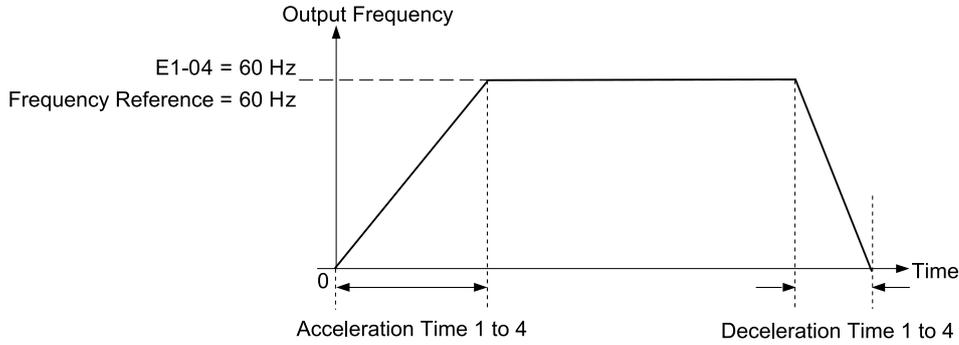
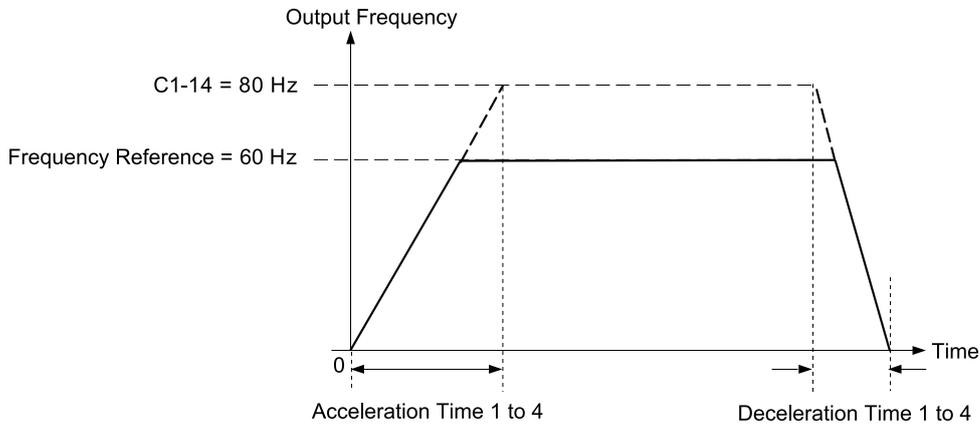

Figure 11.48 Example 1: Acceleration/Deceleration Rate (When C1-14 = 0 Hz, E1-04 = 60 Hz, and the Frequency Reference is 60 Hz)
Figure 11.50 Example 3: Acceleration/Deceleration Rate (When C1-14 = 80 Hz, E1-04 = 60 Hz, and the Frequency Reference is 60 Hz)
- Figure 11.48 to Figure 11.50 show the values displayed for the accel/decel times when C2-01 to C2-04 [S-Curve Times @ start/end of Accel/Decel] are set to 0.00 s.